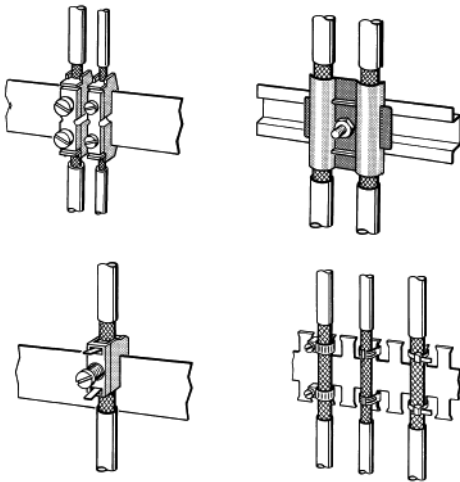

Fig. 8: Securing shielded lines using cable clamps and tube clips (schematic diagram)
- ▶ The clamps must fully enclose the shield and make good contact (see Fig. 8).